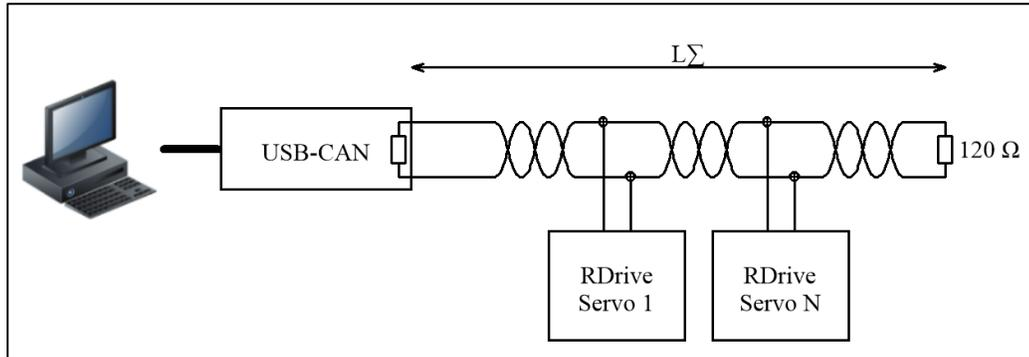
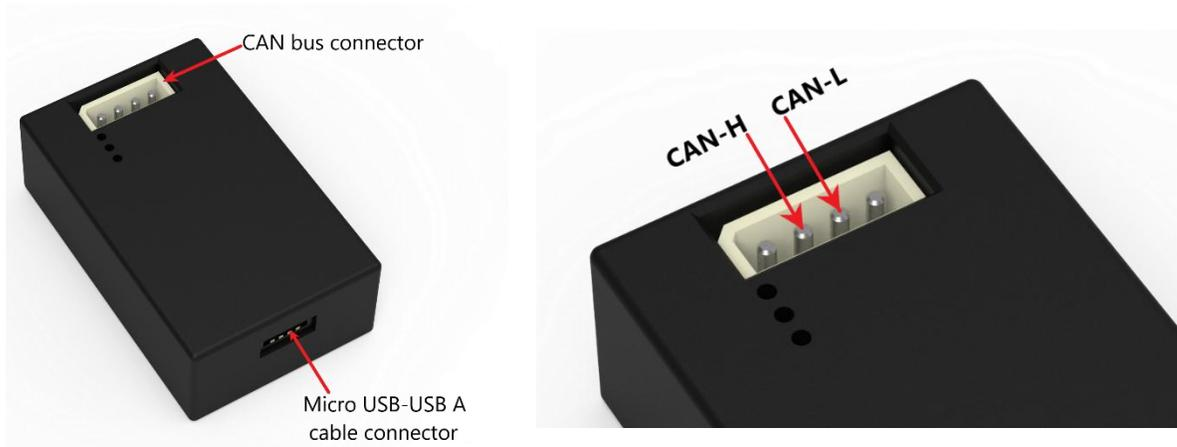

Figure 4-2: CAN-to-PC connection to control servos via API
Figure 4-3: Connectors on the USB-CAN dongle
- In case servo control is via API, provide a CAN-to-PC connection as shown in **Figure 4-2**.
The connection is in accordance with the diagram as shown in **Figure 4-2**, taking into consideration the arrangement of connectors on the USB-CAN dongle (see **Figure 4-3**). To provide the connection, use the cables on the input flange of the servo motor: the brown one corresponds to CAN_{HIGH} , and the blue one — to CAN_{LOW} .